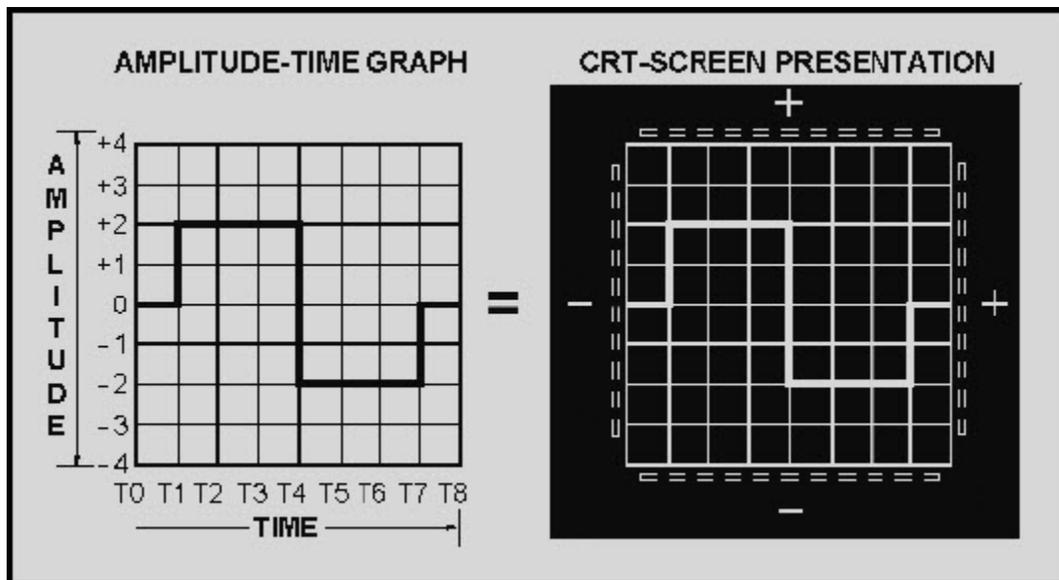

Figure 6-10 Amplitude versus time
**VERTICAL-DEFLECTION PLATES** - We will use figure 6-10 to explain the action of the vertical-deflection plates in signal amplitude measurements. As this discussion begins, remember that vertical-deflection plates are used to show amplitude of a signal, and horizontal-deflection plates are used to show time and/or frequency relationships.
A GRATICULE was used in our previous discussion in figure 6-10. It is simply a calibrated scale (made of clear plastic) of amplitude versus time that is placed on the face of the CRT.